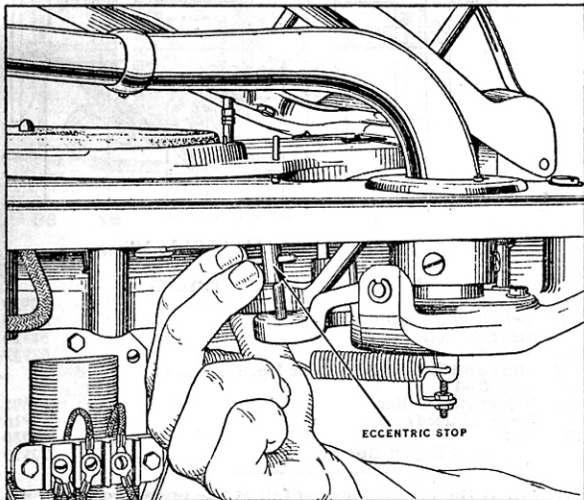

Fig. 13—Adjusting 12" Eccentric Stop
- b. With a small rod or nail turn the eccentric adjustment as shown in Fig. 13.
d. If the needle does not fall at the proper position on a 10" record after making the above adjustment, refer to Fig. 13.